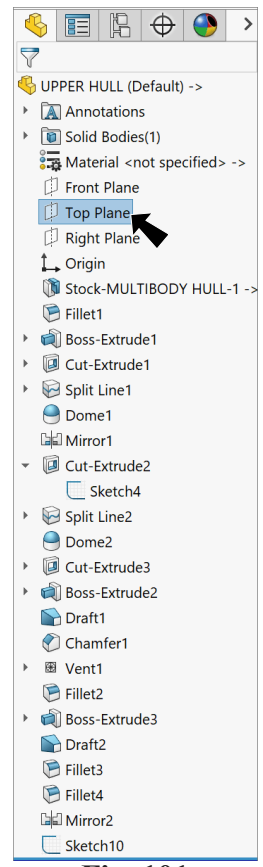

Fig. 101
Step 1. Click **Top Plane**  in Feature Manager to preselect plane, **Fig. 101**.